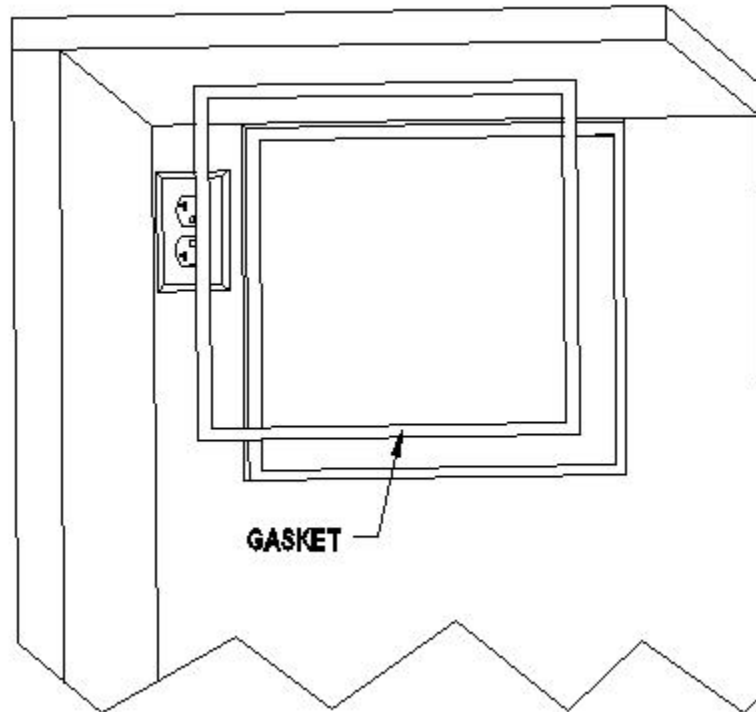

Fig. 2.2 GASKET
- Place the gaskets (1/2" foam tape) on the mounting lip sides (see Fig 2.2).